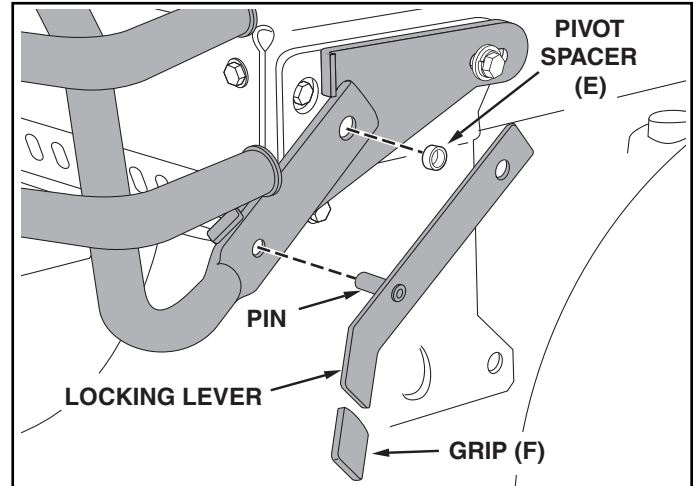

FIGURE 5
STEP 6: (SEE FIGURES 5 AND 6)
- Assemble plastic grips (F) onto locking levers.
2. Insert pivot spacers (E) into rear holes in bumper.